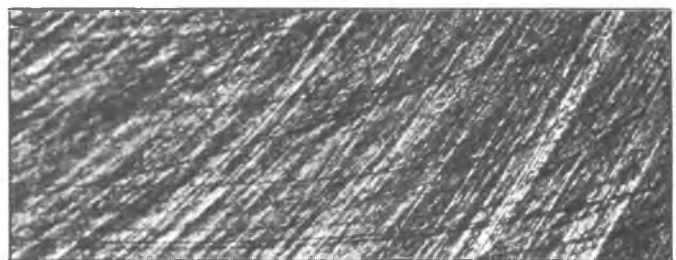

Fig. 73—Cylinder Finish Marks
3. When finish honing a cylinder bore to fit a piston, the hone should be moved up and down at a sufficient speed to obtain very fine uniform surface finish marks in a cross-hatch pattern of approximately 45 to 65 degrees included angle. The finish marks should be clean but not sharp, free from imbedded particles and torn or folded metal (fig. 73).